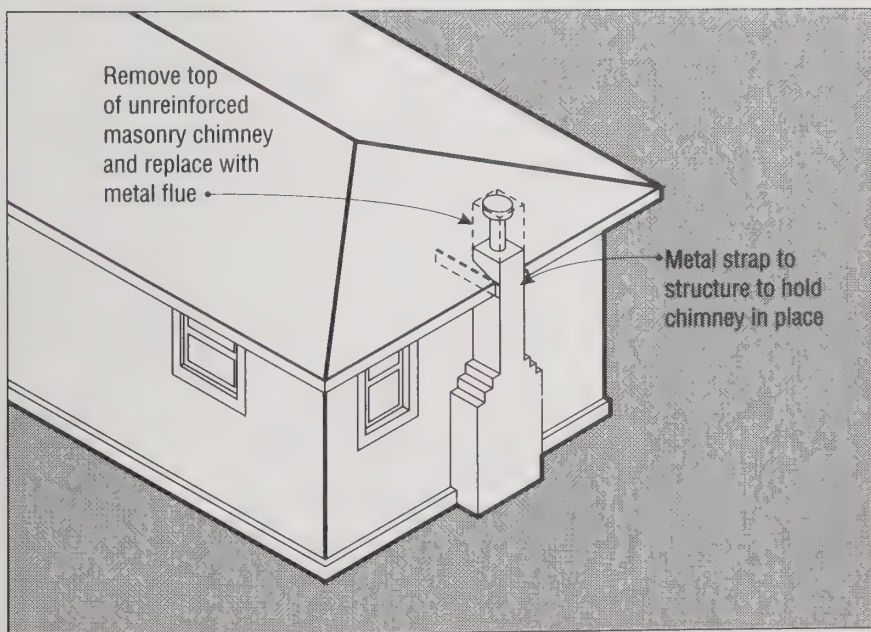

Figure 8: Reducing chimney hazards by removing the top.
G. Weak Chimney—Many older homes have unreinforced brick chimneys that extend several feet above the roof or stand against an exterior wall. These chimneys frequently collapse in an earthquake and can fall through roofs. If a chimney is unreinforced, the most effective alternative is to take it down and reconstruct it with proper reinforcement, or replace it with a lighter metal chimney. At the very least, the top of it should be taken down to a level of one foot above the roof and replaced with a metal flue approved for fire safety by a testing laboratory and the local building department (see Figure 8). The lower part of the chimney should be strapped to the structure; if the chimney is reinforced strongly enough, strapping should be sufficient.